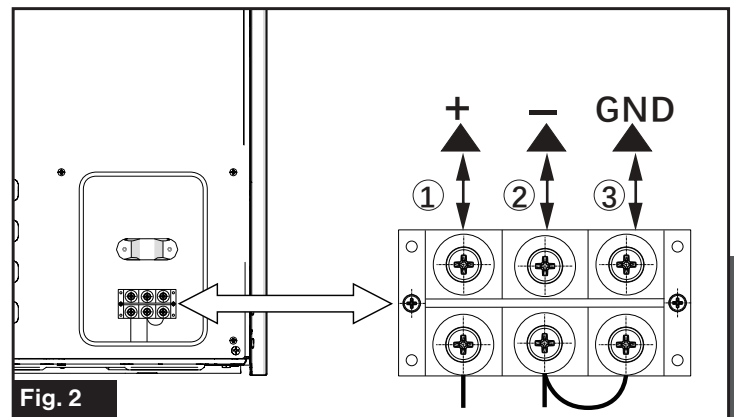

Fig. 2
2. Connect the cables to the correct terminals as shown in Fig. 2. Connect the terminal "+" to the 12V DC positive pole connect the terminal "-" to the 12V DC negative pole.